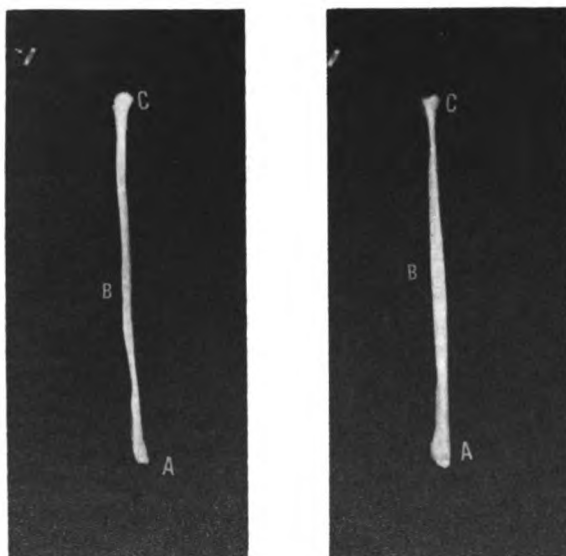

Figure 4-13 Fibula - AP and Lateral Views
The Fibula. The fibula is the lateral bone of the leg. It is a slender bone with the distal end somewhat pointed and the proximal end more rounded. Each end has an arrowhead shape. The structures of the fibula are the LATERAL MALLEOLUS (A), INTEROSSEOUS CREST (B), AND THE HEAD OF THE FIBULA (C) as shown in Figure 4-13.